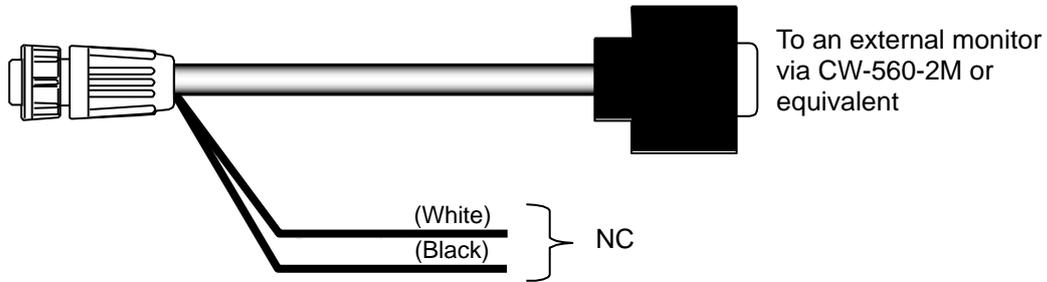
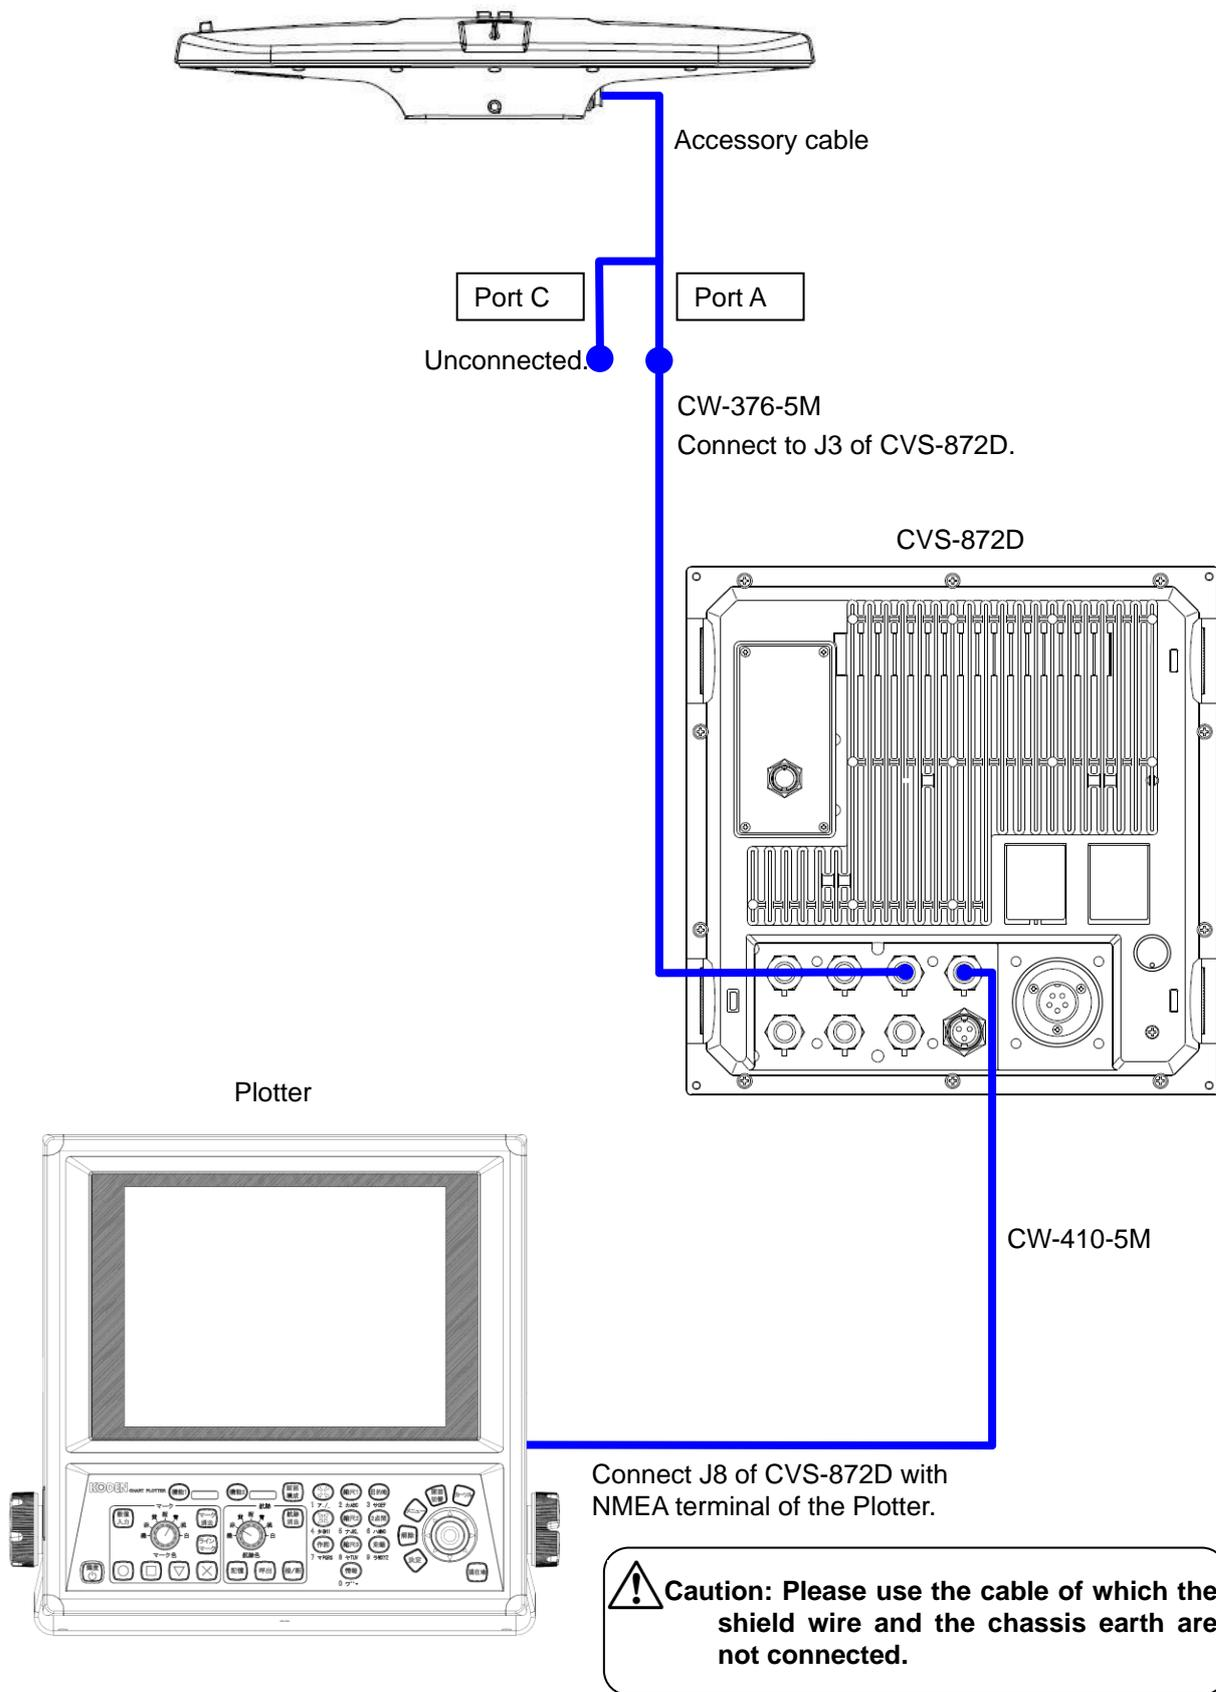

Fig. 1.55 Connection of External Monitor
Fig. 1.60 The general connection chart 3
In the other cases, connection with Port C is not necessary. Refer to “**Fig. 1.60 The general connection chart 3**”.
- 4) Refer to “**Fig. 1.55 The general connection chart 1 to Fig. 1.60 The general connection chart 3**”, connect other equipment to communicate NMEA with the terminal J8 of CVS-872D.